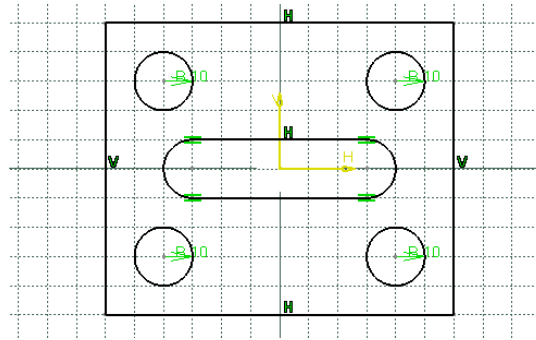

Figure 2-52 The final sketch
15. Similarly, draw the other two circles. The coordinates of the center point of the other two circles are -40, 30 and -40, -30, respectively. The final sketch, with the display of constraints turned on, is shown in Figure 2-52.